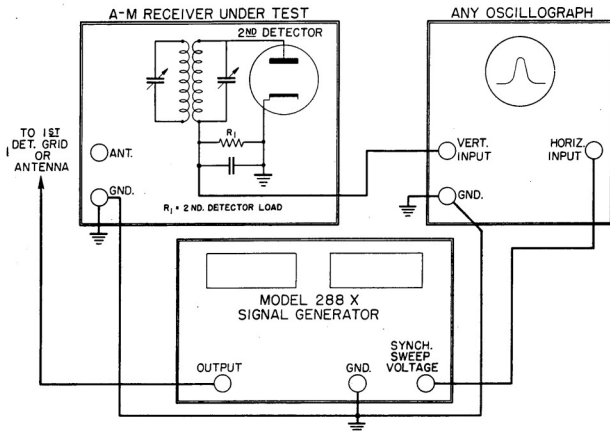
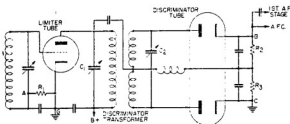

Figure 4.2 - Interconnections for Alignment
Figure 4.3 - Discriminator Circuit
The following chart summarizes the alignment effected, the signals required, the indicating medium required, the points of connection for both, and the alignment adjustment necessary for the alignment of the stages of both amplitude and frequency modulated receivers. In conjunction with this chart, reference is made to the text for greater detail on the alignment to be made and to Figure 4.2 which shows the interconnections of the oscillograph, signal generator and the receiver. All points given are with reference to the basic circuit of the superheterodyne receiver, illustrated in Figure 4.1, and the discriminator circuit illustrated in Figure 4.3. The oscillograms which will be obtained when making alignment by means of the oscilloscope are shown in Figure 4.4 - 4.10.
1. In frequency modulated receivers there is at least one, and sometimes two, limiter stages ahead of the discriminator (2nd detector) stage. See Figure 4.3. The general procedure for the alignment of frequency modulated receivers is similar to that for the alignment of amplitude modulated receivers except that, in the alignment of various stages, it is necessary to have either a sensitive microammeter, preferably zero-centered, a vacuum tube voltmeter, such as the Hickok Models 125, 203 or 110D, or cathode ray equipment such as the Hickok Model 305.
2. Figure 4.3 illustrates a typical limiter and discriminator circuit. If no scope is available it will be necessary in the alignment of all i-f and r-f stages and the local oscillator preceding the limiter stage, to either disconnect the limiter load resistance, R1, from ground and insert a microammeter, or to connect a vacuum tube voltmeter across R1, and use either meter as an indicator of alignment of the preceding stages. The alignment procedure will be identical to that for amplitude modulated receivers.